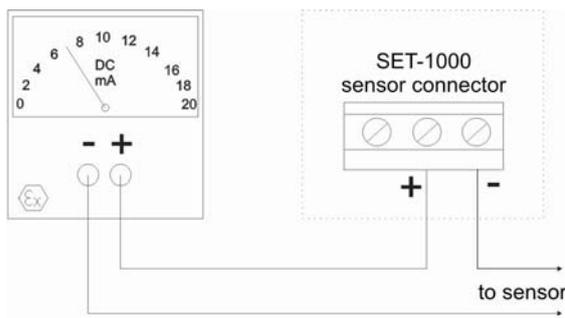

Figure 5. Sensor current measurement
- 3.3 Connect mA-meter as in figure 5.